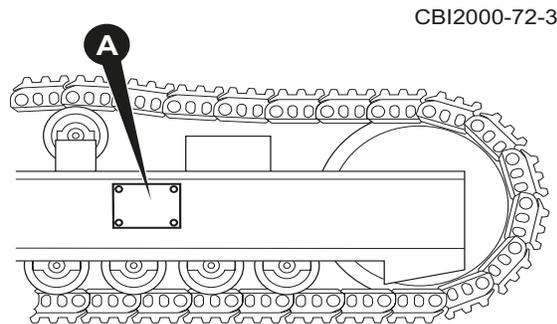

Figure 6.41 - Remove Access Cover
2. Remove Access Cover - Remove the access cover on the side of the track frame (Figure 6.41 / A)..